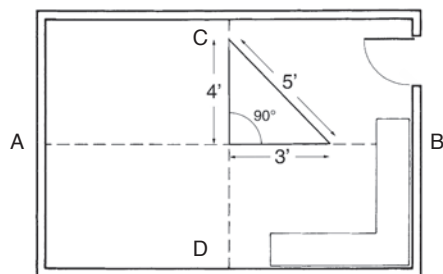

Fig. 6 - Square layout.
- Find the center of the line and snap a second chalk line at a right angle; use the 3', 4', 5' method to form a right angle (Fig. 6).